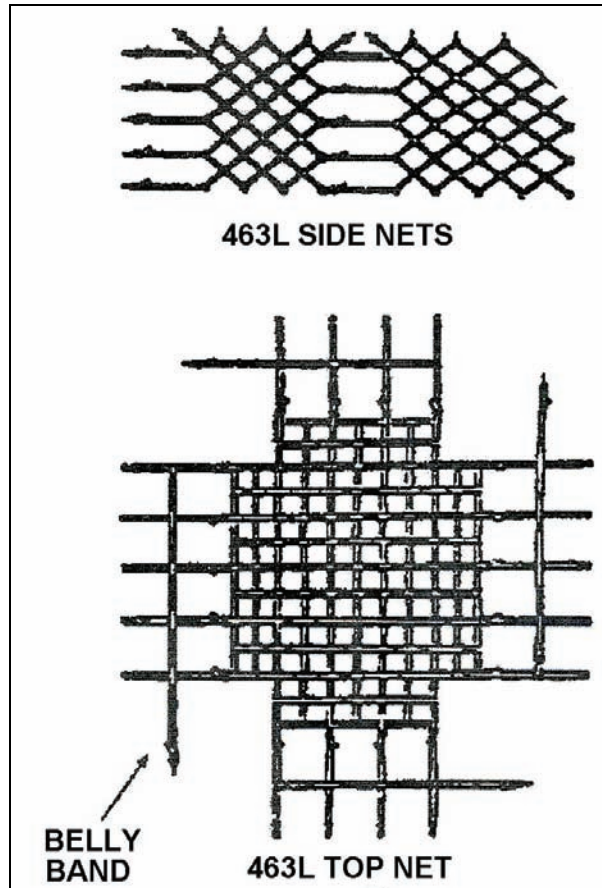

Figure 3-105. Nets Laid Out
6. Direct personnel to lay out each complete set of nets (one top and two side nets) (see Figure 3-105).